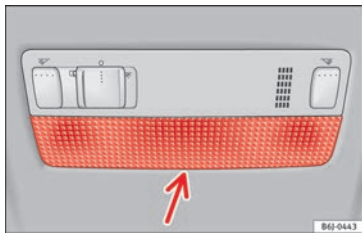

Fig. 121 Front reading light.
- Insert a fine screwdriver between the casing and the glass »» Fig. 121.